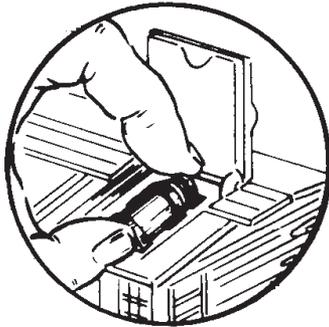

Figure 3. Loading the cans
1. Load the cans into the hatch in the roof. The top of the cans must be toward the center of the car as you load them. Refer to Figure 3.